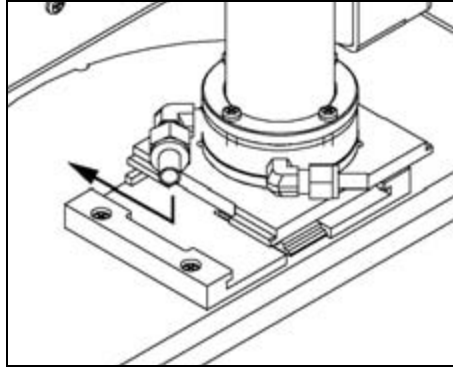

Figure 2-6
1. Place the base of the DMA down into the middle of the mounting plate on the Classifier as shown in Figure 2-6.